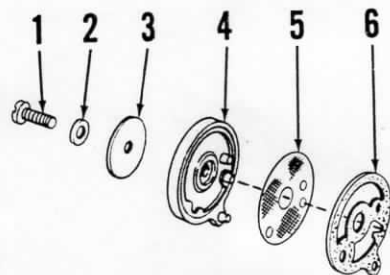

Fig. OM7-10—When installing filter on 1965 and later models, make certain that parts are installed as shown.
On 1965 and later models, make certain that fuel filter parts are installed as shown in Fig. OM7-10. The small guides on cover (4) should go through screen (5), gasket (6) and enter holes in pump housing.